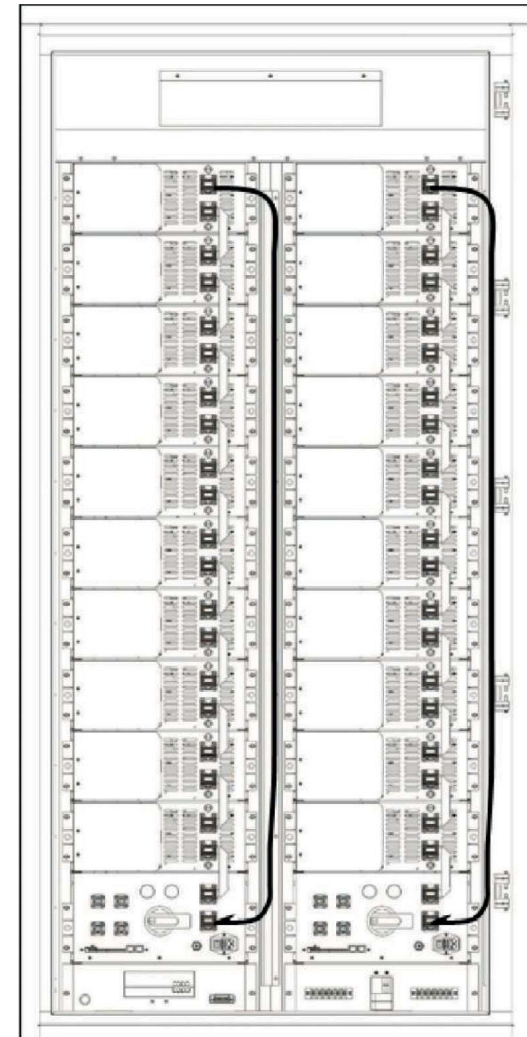

Figure 3-5: “B-” power cable connection
Step 4 Install another cluster of battery modules. Repeat steps 1 ~ 3 to complete the connection and fixation of the power cables and soft copper bars of another cluster of battery modules in the battery cabinet in sequence, as shown in Figure 3-5.